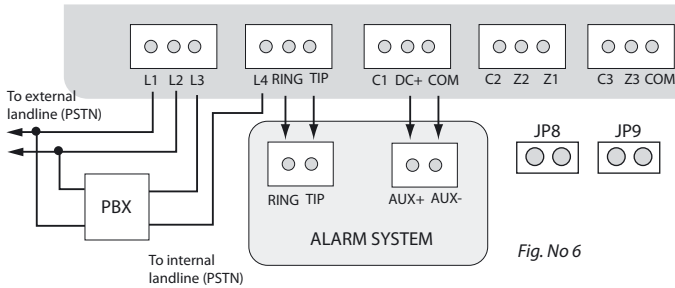

Fig. No 6
1. Connect the circuit as indicated in Fig. No. 6 – connect telephone contacts of the alarm system **RING/TIP** to **RING/TIP** contacts of communicator.